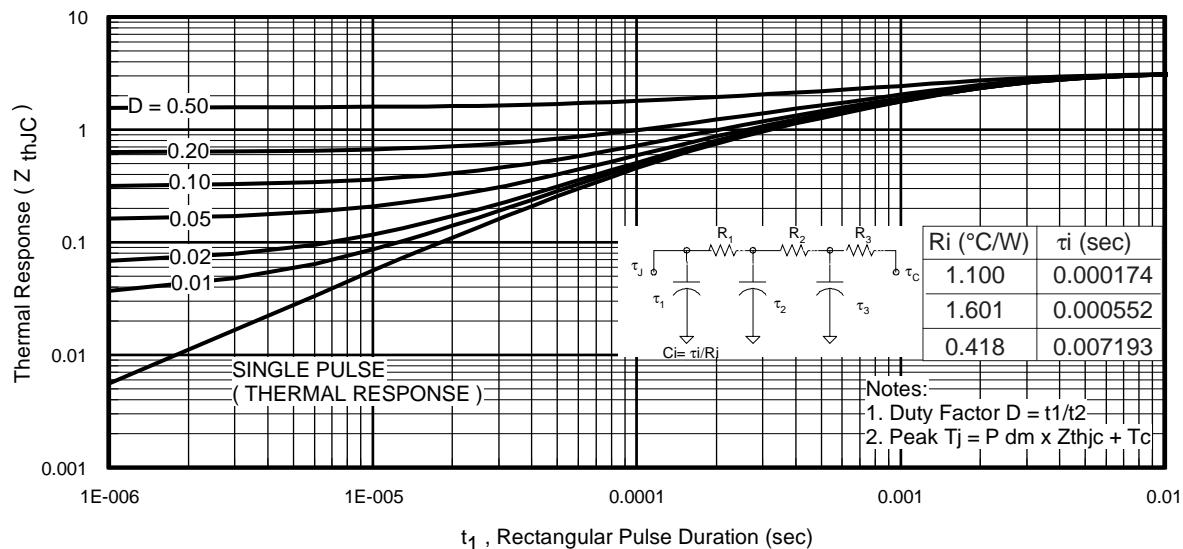
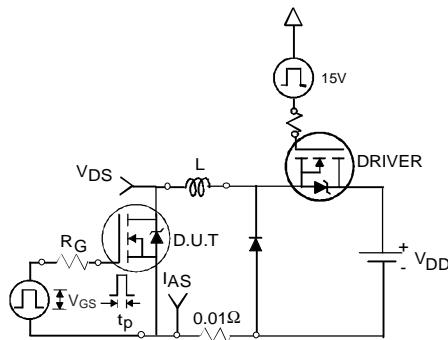

Fig 11. Maximum Effective Transient Thermal Impedance, Junction-to-Case
Fig 12a. Unclamped Inductive Test Circuit
3. Equation below based on circuit and waveforms shown in Figures 12a, 12b.
$Z_{thJC}(D, t_{av})$ = Transient thermal resistance, see figure 11)
- ① Repetitive rating; pulse width limited by max. junction temperature. (See fig. 11).
- ② Limited by T_{Jmax} , starting $T_J = 25^\circ C$, $L = 0.18mH$ $R_G = 25\Omega$, $I_{AS} = 18A$, $V_{GS} = 10V$. Part not recommended for use above this value.
- ③ Pulse width $\leq 1.0ms$; duty cycle $\leq 2\%$.
- ④ C_{oss} eff. is a fixed capacitance that gives the same charging time as C_{oss} while V_{DS} is rising from 0 to 80% V_{DSS} .
- ⑤ Limited by T_{Jmax} , see Fig.12a, 12b, 15, 16 for typical repetitive avalanche performance.
- ⑥ This value determined from sample failure population. 100% tested to this value in production.
- ⑦ When mounted on 1" square PCB (FR-4 or G-10 Material). For recommended footprint and soldering techniques refer to application note #AN-994